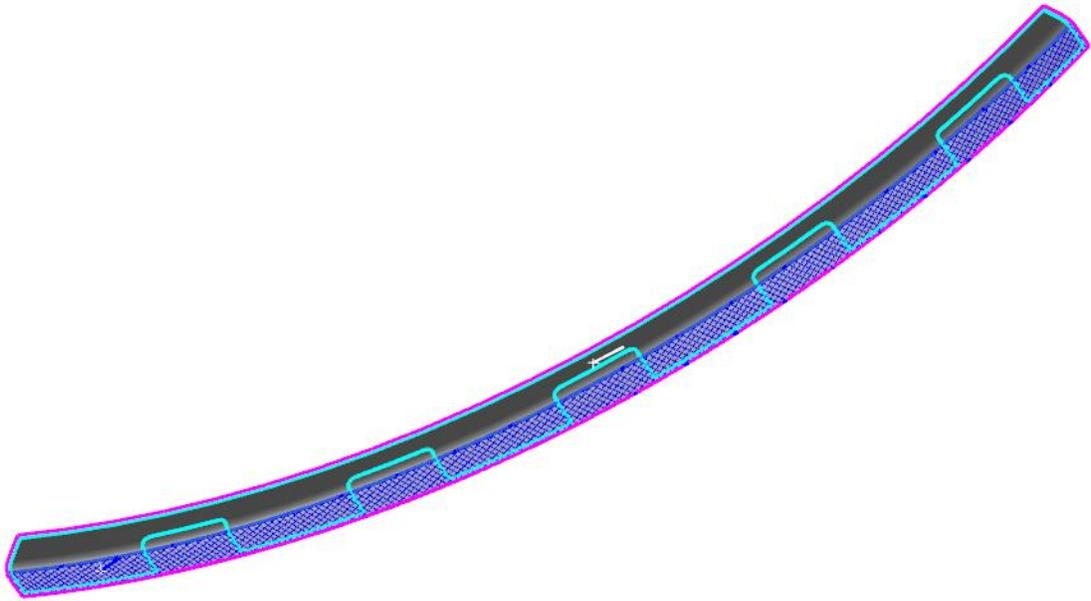

Figure 3–66
6. The model should display as shown in Figure 3–66. Note that the pad-up areas are covered with one continuous ply by using the Design to Extended method, which is how the part will be manufactured.